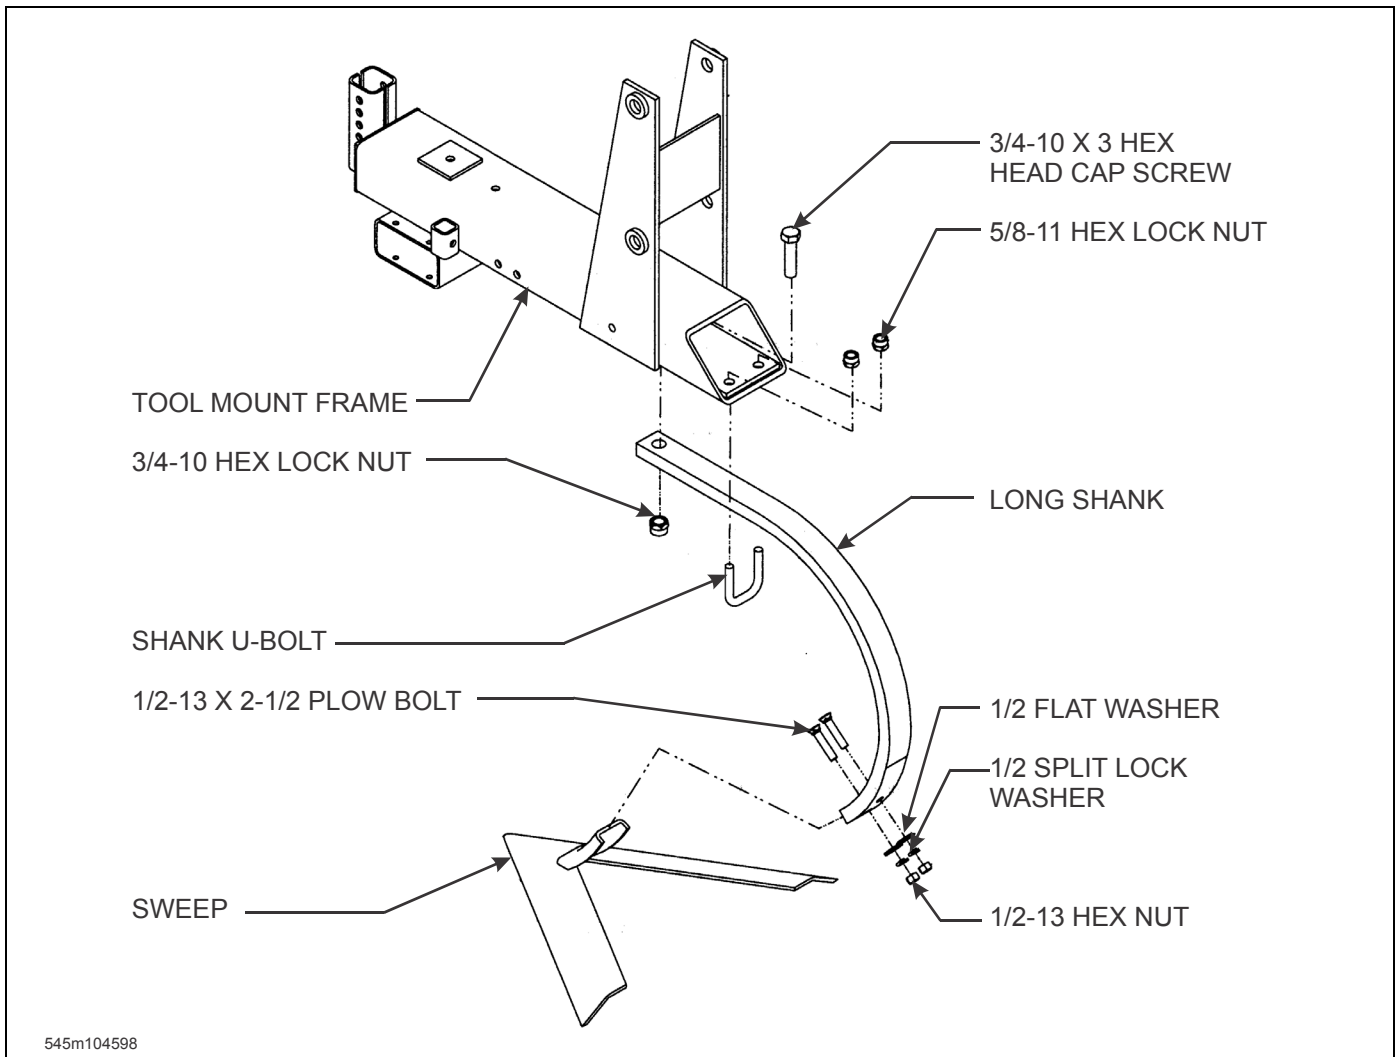

Figure 3-4: Shank Installation
See Figure 3-4 for parts names. When assembly is done, tighten all fastening hardware to the torques listed in Table 2-1 and Table 2-2. Tighten u-bolts evenly to show an even amount of thread on both legs of the u-bolt.
1. Mount the shield bracket centered over the shank (See Figures 3-4 and 3-6) during shank installation. (See “Shank Assembly” on page 3-6.)